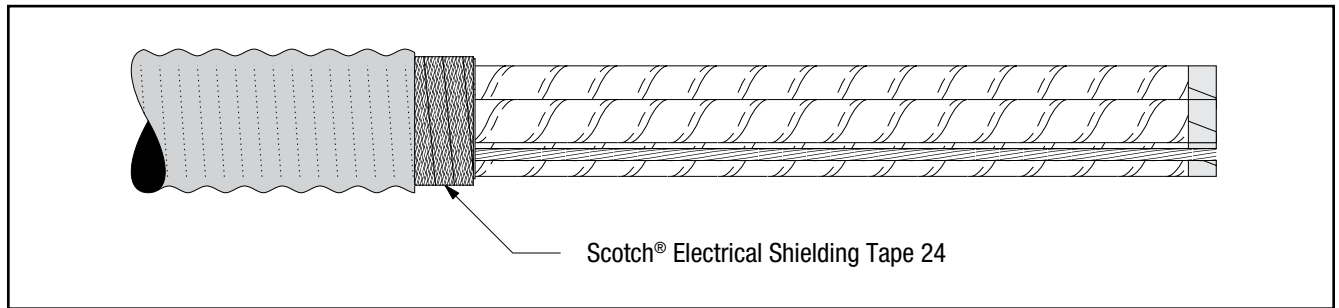

Figure 2
- 3.1 Fill one armor valley section with tightly-wrapped layers of Scotch® Electrical Shielding Tape 24 (*Figure 2*).